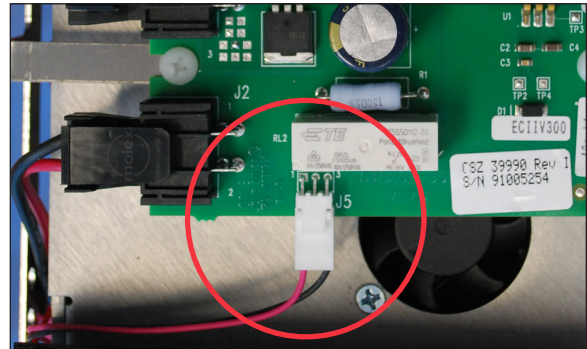

Figure 61 - Step 3 Unplug pump wiring
3. Disconnect the pump connector from J5 on the control board (Figure 61).